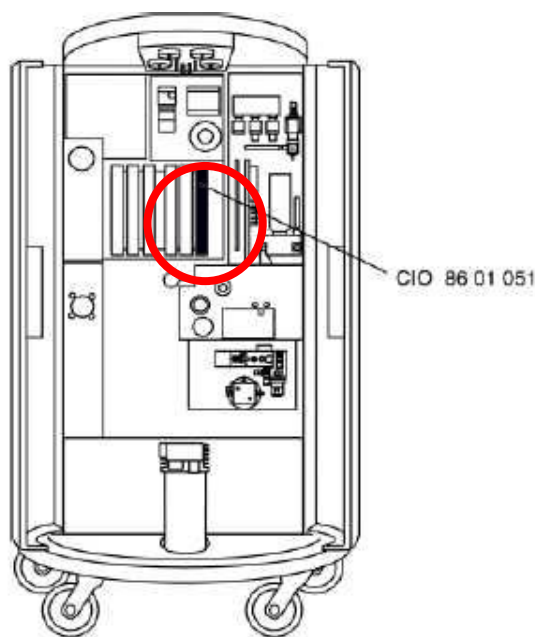

Figure 1- CIO PCB Location
- 3. Locate and remove PCB CIO and place on ESD mat. **See Figure 1.**